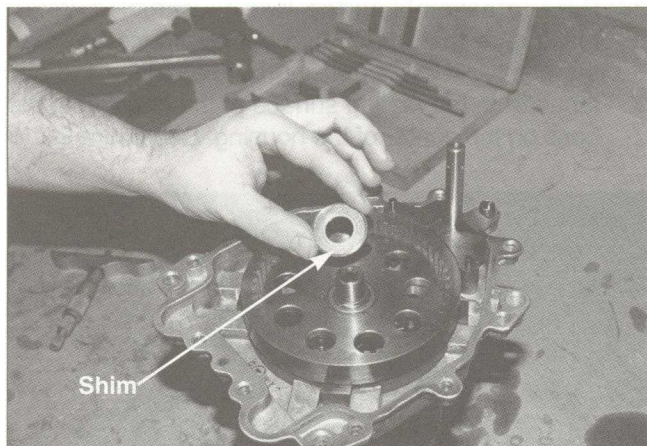

FIGURE 26.
26. Shim the axle with hardened washers to achieve five to 20 thousandths clearance. This provides play without binding. See figure 26.